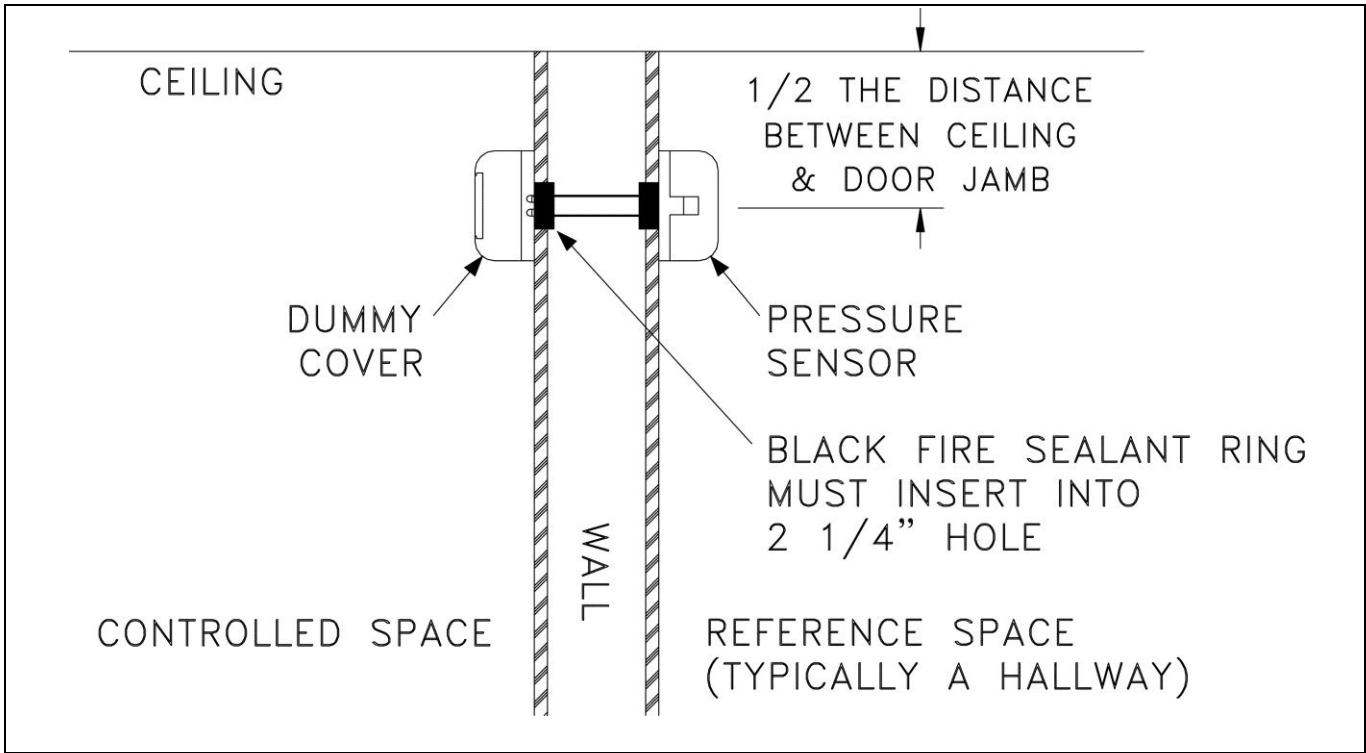
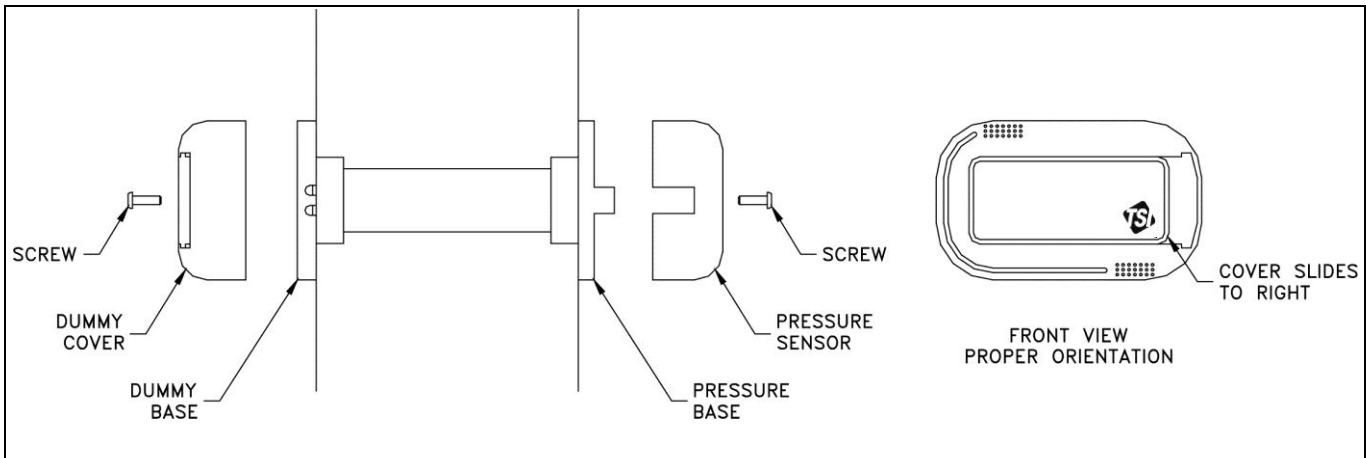

Figure 3: Cutaway View of Mounted Pressure Sensor
Figure 4: Pressure Sensor Mounting
800243 pressure sensor must be mounted through the wall between the controlled space (isolation room) and referenced space (hallway), exactly as shown in Figure 3 and Figure 4.
- Determine pressure sensor location (Figure 1, Figure 3, and Figure 4). Pressure sensor typically mounts in the reference space, and the dummy housing mounts in the isolation room.
- From the side of the wall the sensor will be mounted, slide the sensor tube through the wall. Slide the dummy base over the end of the tube. Screw the pressure sensor base and dummy base to the wall (Figure 3 and Figure 4).
- Install and screw the pressure sensor and dummy cover onto the bases. Slide covers to the left to hide the sensor. Finished installation should look as shown in Figure 4.